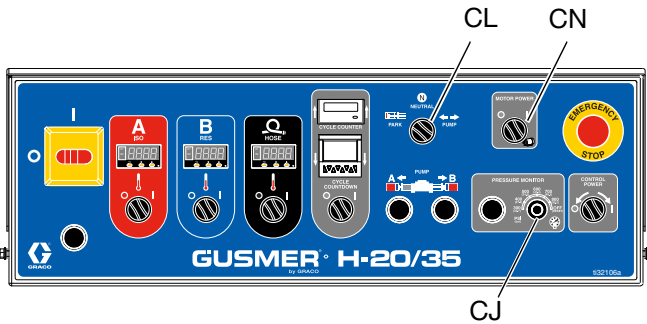

FIG. 39
- Turn pressure monitor knob (CJ) to OFF. See FIG. 39.
- Start hydraulic motor by turning on motor power switch (CN). Then turn pump control switch (CL) to PUMP.